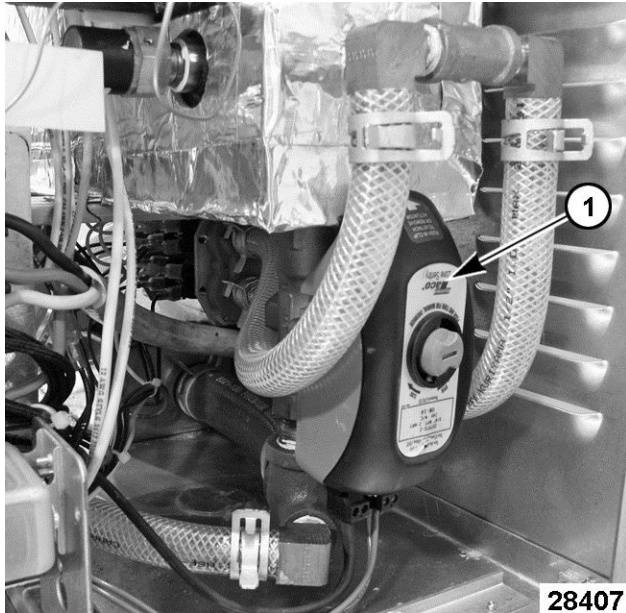

Fig. 63
4. Locate the motorized drain valve [1] Fig. 63 found at lower right side of steam generator tank.